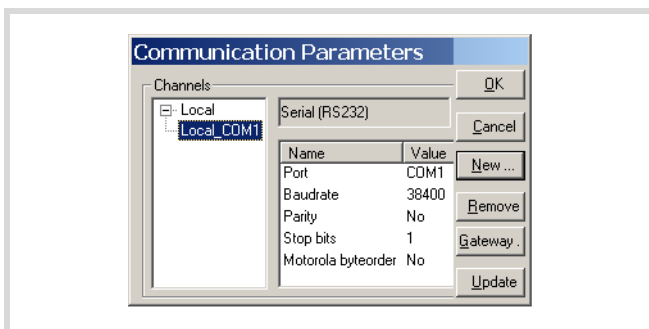

Figure 48: Defining the PC's communication settings
To match them, first adjust the PC's communication settings to the CPU's settings. Use the CPU's default parameters, transferring them as shown in figure 48.
- ▶ Use the remaining settings as shown in figure 48.